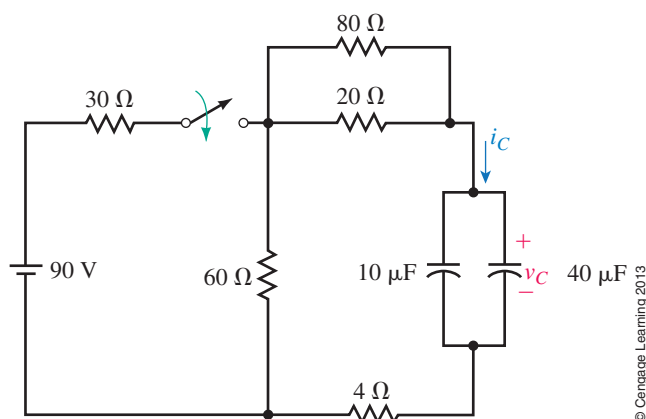

FIGURE 11-57
31. Repeat Problem 30, parts (a) to (c) for the circuit of Figure 11-57.
47. For Figure 11-57, both capacitors are uncharged. Place your Multisim ground at the bottom end of the capacitors and: